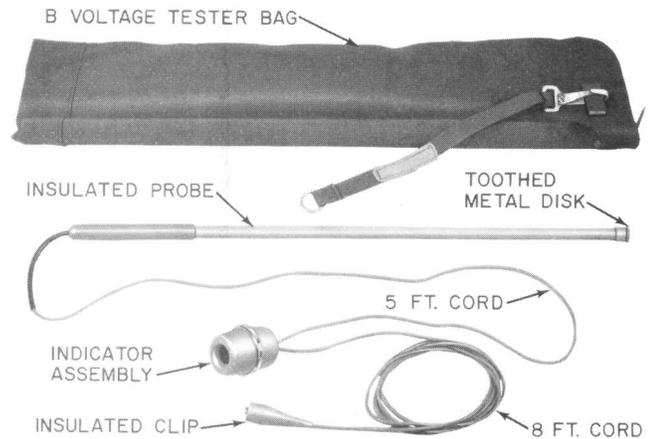
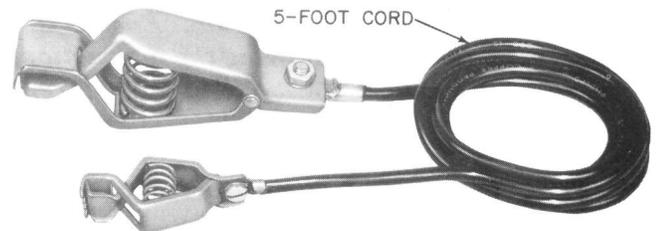
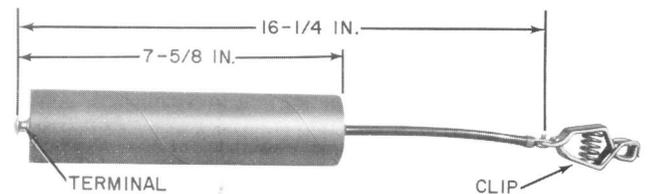

Fig. 1—B Voltage Tester
Fig. 2—B Temporary Bond
Fig. 3—B Shunting Capacitor
1.04 The B voltage tester (Fig. 1) is used in conjunction with a B temporary bond (Fig. 2) and the B shunting capacitor (Fig. 3).
5.01 The B shunting capacitor (Fig. 3) is required under certain conditions in testing street light fixtures. Workmen will usually know those areas where it will be required and they will be properly equipped.